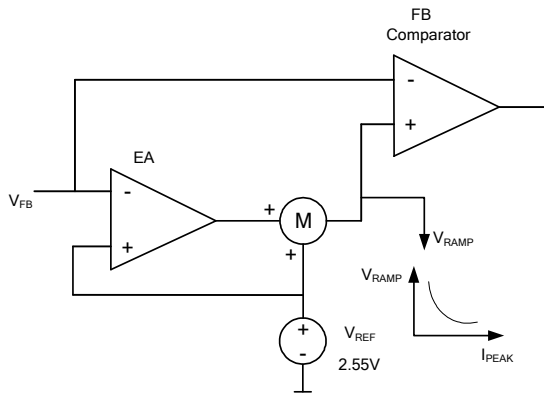

Figure 4: EA and Ramp Compensation
The MP171A has an internal error amplifier (EA) compensation loop (see Figure 4). It samples the feedback voltage 6 μ s after the MOSFET turns off, and regulates the output based on the 2.55V reference voltage.
An internal ramp compensation circuit improves the load regulation. An exponential voltage signal is added to pull down the feedback comparator's reference voltage (see Figure 4). The ramp compensation is a function of the load conditions; the compensation is about 1mV/ μ s under full-load conditions. The compensation increases exponentially as the peak current decreases.